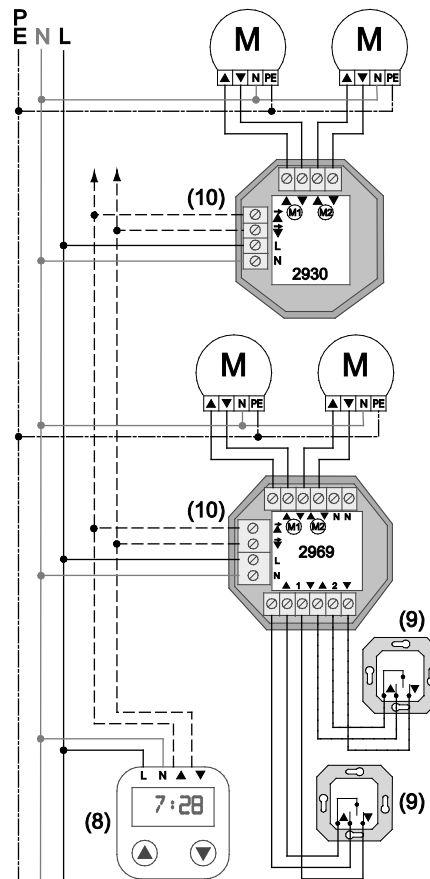
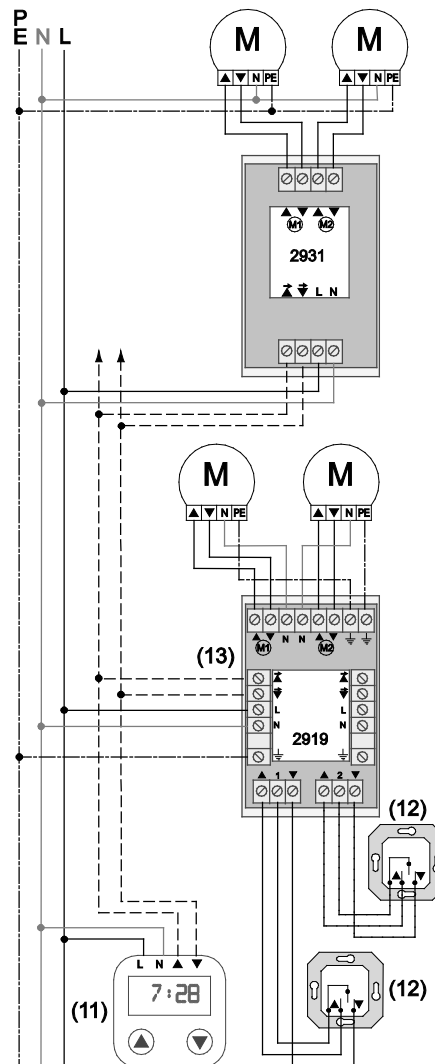

Figure 3
Figure 4
All connected drives are moved simultaneously using the master command of a signal generator (Figures 3 (8), 4 (11)). The following signal generators can be used:
For cutoff relays with extension unit outgoing feeders, an additional separate operation of the drives is possible (Figures 3 (9), 4 (12)).
- Connect cutoff relay according to connection diagram (Figure 3).
- Connect cutoff relay according to connection diagram (Figure 4).
- Connect cutoff relay according to connection diagram (Figure 3 (10) and Figure 4 (13)).